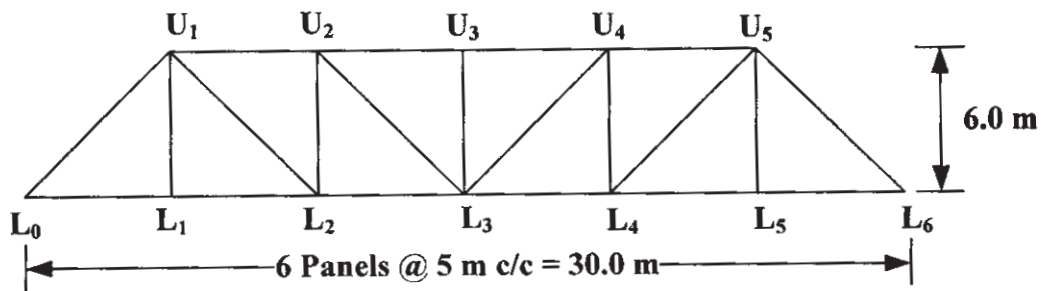

Fig. 7
**Q7)** Using channel sections, design the members  $U_2-U_3$ ,  $U_2L_3$  and  $U_3-L_3$  for the railway steel truss bridge shown in Fig. 7. Also draw a neat sketch of the connection of members at  $U_3$  [25]
**Q8)** For the railway bridge shown in Fig. 7, design the top and bottom lateral bracing with the given data. The rails are  $850 \text{ mm}$  above the c.g. of bottom chord. The chord members are  $400 \text{ mm}$  deep and  $500 \text{ mm}$  wide. The end posts are  $475 \text{ mm}$  deep and  $475 \text{ mm}$  wide. The web members are  $475 \text{ mm}$  deep and  $240 \text{ mm}$  wide. [25]